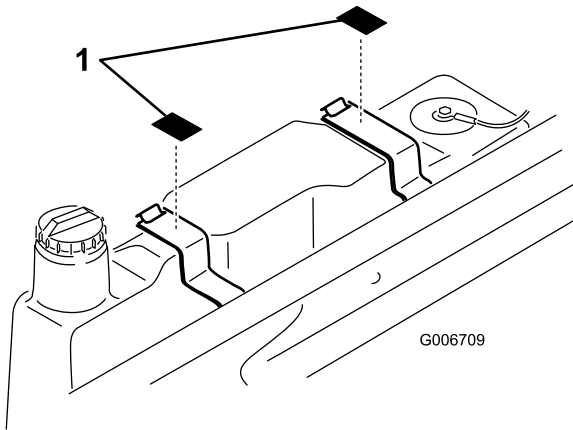

Figure 19
2. Affix the no-step decal to the top of each fuel tank mounting strap as shown in Figure 19.